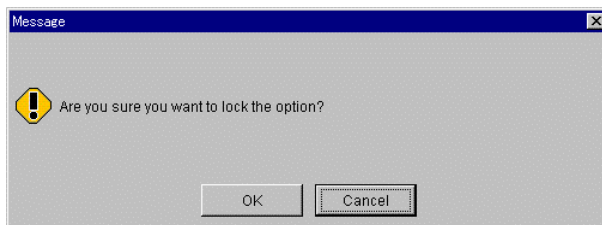

Figure 2.6 Lock Confirmation Request Message
6. A message appears, requesting a confirmation to lock the SANTinel 9500V feature. Click the **OK** button (see Figure 2.6).